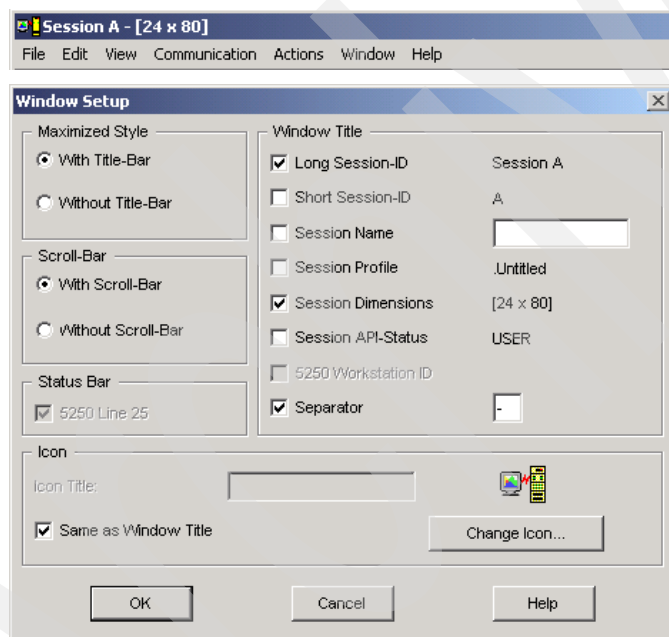
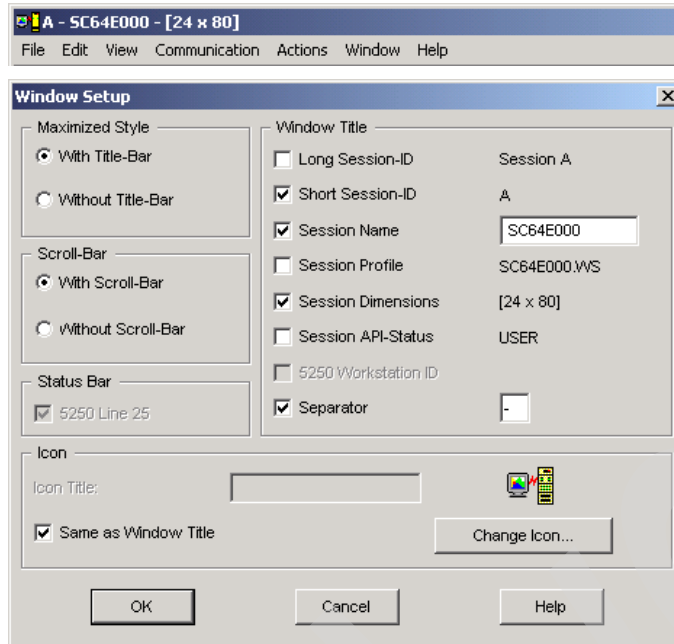

Figure E-5 PCOMM window setup defaults
Figure E-6 PCOMM window setup modified
2. The Window Setup panel is displayed. Figure E-5 shows the default window setup settings and the resulting window banner title above. Change the window settings to match Figure E-6 on page 128, and click **OK**.